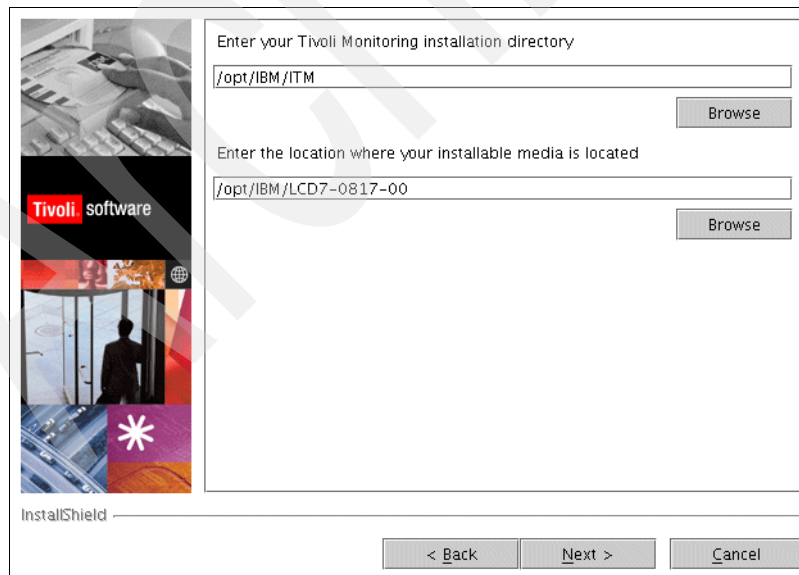

Figure 3-58 Installation paths
2. Specify the installation source and target as shown in Figure 3-58.